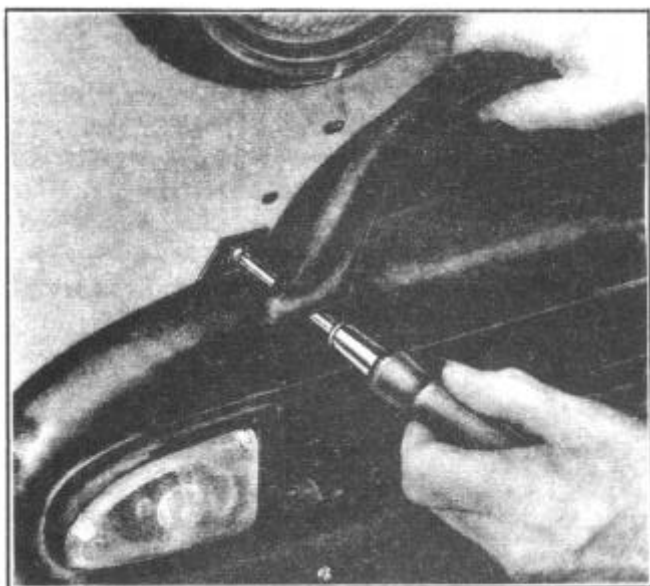

FIGURE 97
3. Pull upper grille moulding out approximately 2" (Do not bend) and remove the one screw that is hidden behind the upper grille moulding, Figure 97. (This screw attaches the parking light ornament assembly to the front fender.)
3. Pull upper grille moulding out approximately 2" (Do Not Bend) and remove the one screw hidden behind the upper grille moulding attaching the parking light ornament to the front fender. See Figure 97.